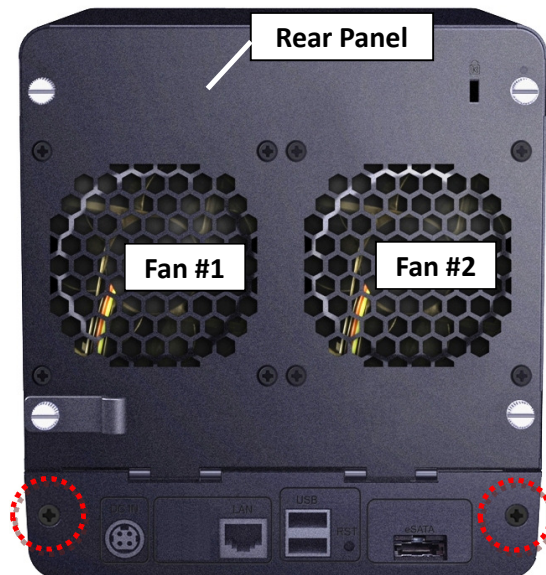

Fig. 79
3.2.8 Fix the two (2) screws on the rear panel (Marked by the red circles). (Fig. 79)